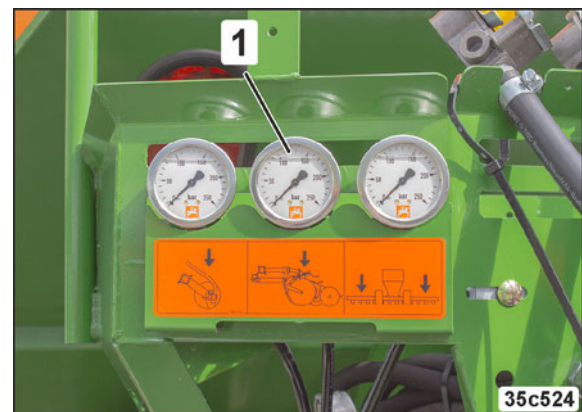

Fig. 84
- from the tractor seat on the pressure gauge (Fig. 84/1) or